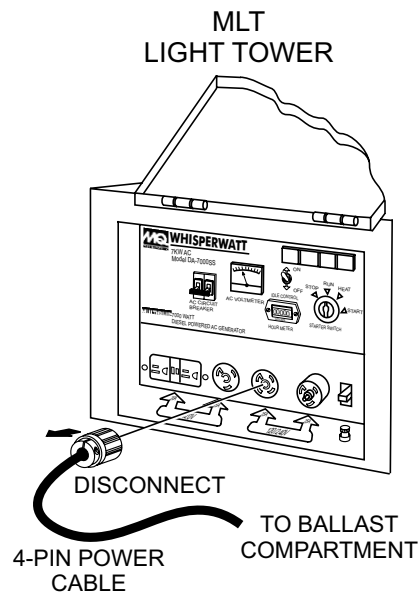

Figure 7. MLT Power Cable Removal
2. For MLT series light towers disconnect the 4-pin power cable (Figure 7) from the 125 VAC twist-lock receptacle on the front panel of the generator.